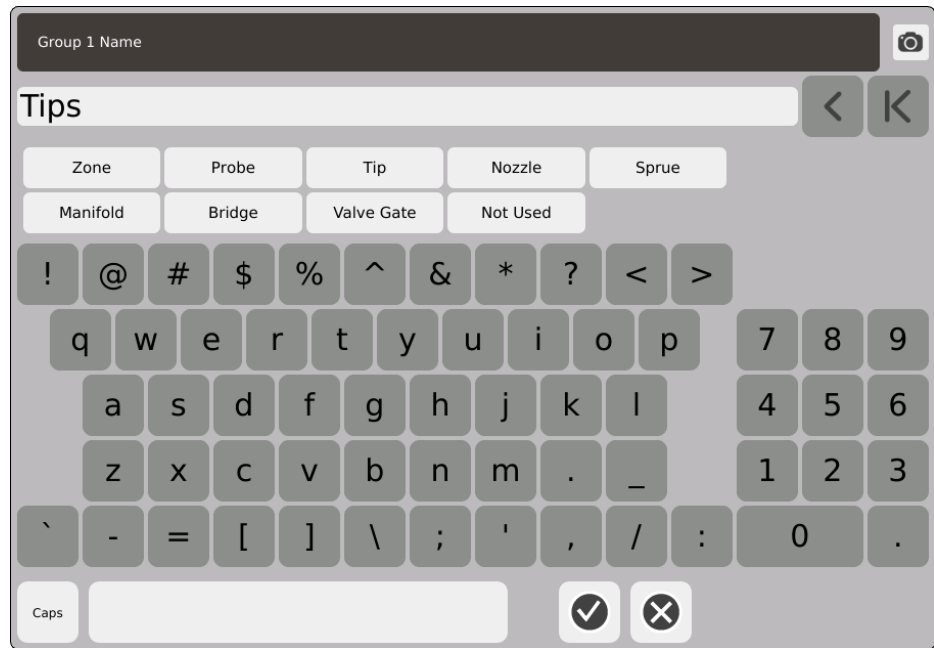

Figure 8-3 Group Name Keyboard Dialog
- b. Use the keyboard to enter in the name you want for the group, then select the  button to accept the name (refer to Figure 8-3).